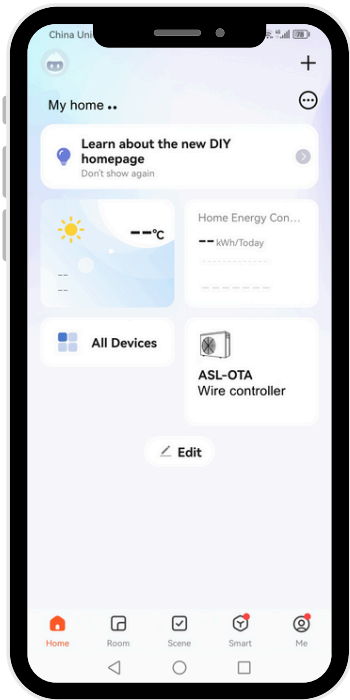

Figure 7
- Click the ASL-OTA Wire controller on the home page of "tuya" app to enter the device operation interface, as shown in Figure 7.